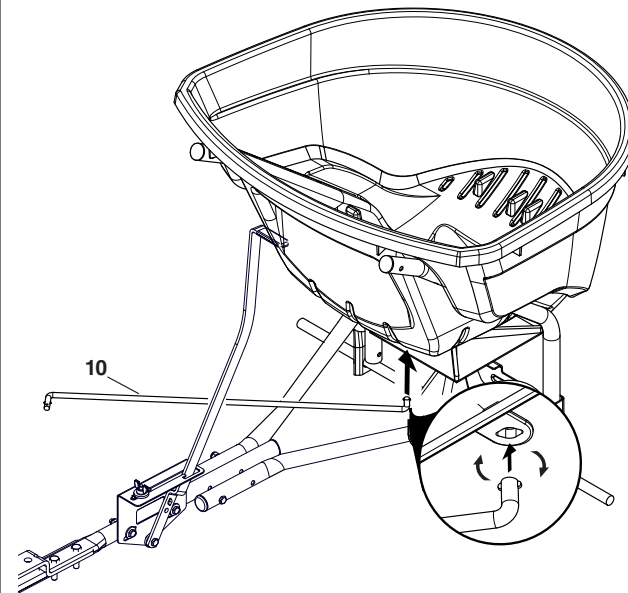

Figure 11
STEP 11: (SEE FIGURE 11)
- Install the end of the flow control rod (9) with no hole into the elongated hole in the flow plate on the bottom of the hopper. Lock the rod in the flow plate by rotating the rod.